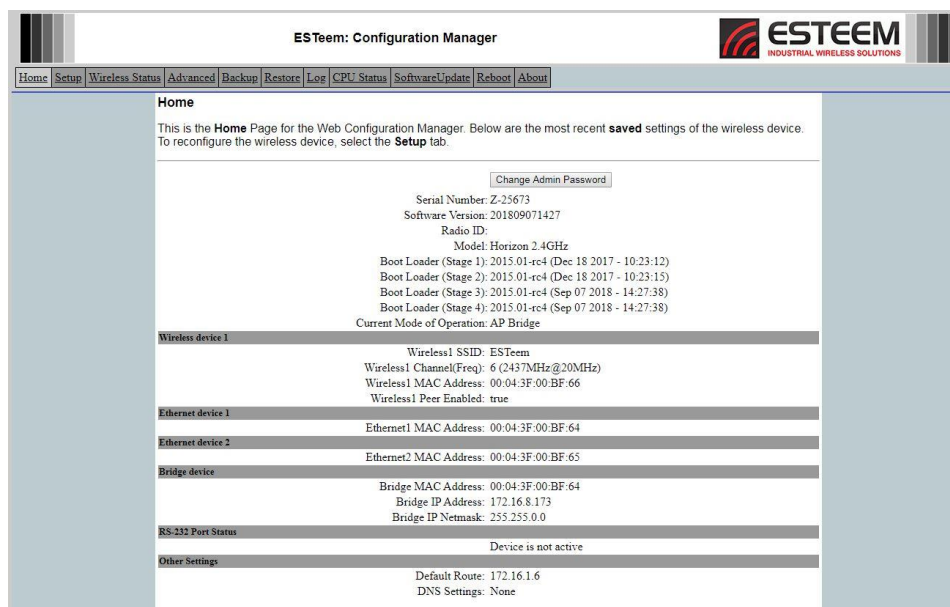

Figure 10: Horizon Home Page
2. If this is the first configuration of the radio, enter the default Username and Password "admin" for each. Press the Enter key or the "Log in" button on the browser to open the Home page of the radio (Figure 10).